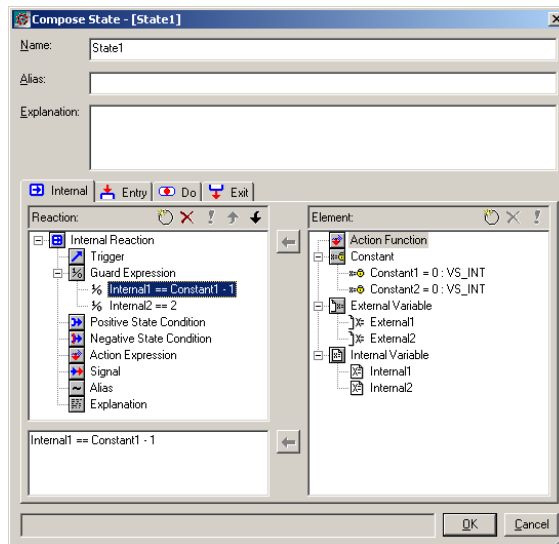

Figure 78: Compose Transition dialog box, guard expression value
- 3 Go to the Element section and double-click the item to apply, for example internal variable for a guard expression. The item will be moved to a section below the Reaction section. See *Figure 78*, page 94.